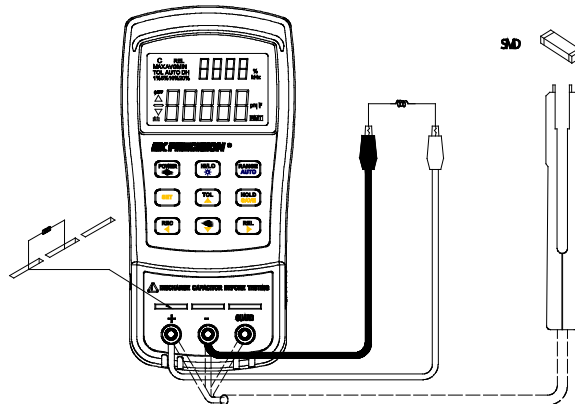

Figure 21 - Inserting Capacitance to Inputs
*(See Figure 21 for illustration)*